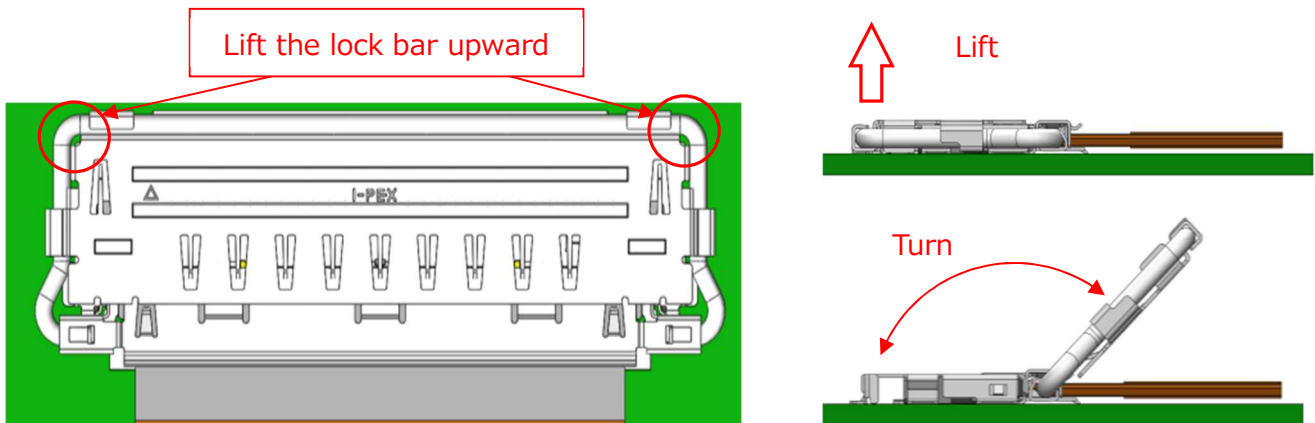

Fig 14.
②As shown in Fig.14, hold both ends of the Plug connector and withdrawal it parallel.